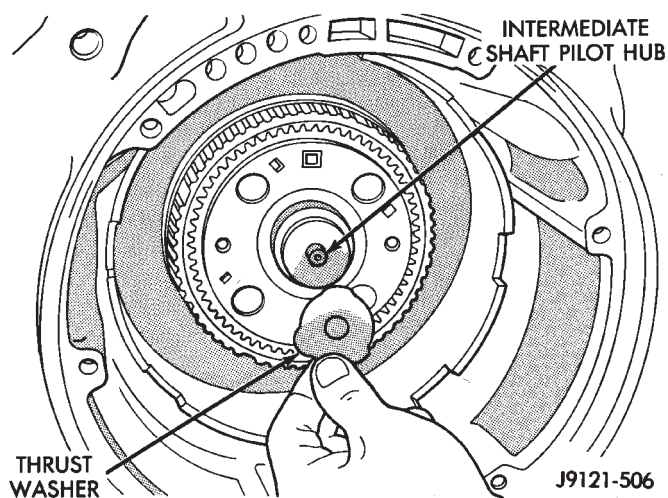

Fig. 110 Intermediate Shaft Thrust Washer
(21) Remove intermediate shaft thrust washer. Triangular shaped washer will either be on shaft pilot hub or in rear clutch retainer (Fig. 110).